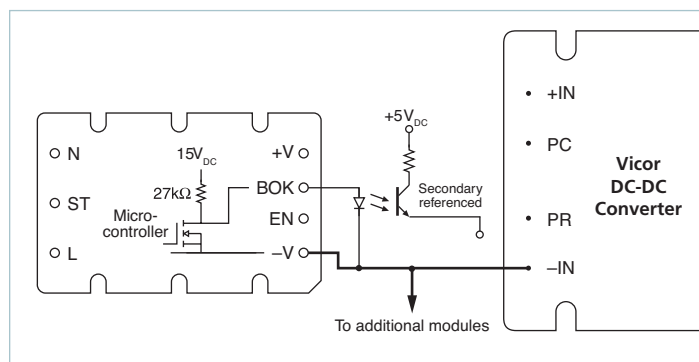

Figure 12 — Bus OK (B OK) isolated power status indicator
**Bus-OK (B OK) Pin:** (see Figure 12) The Bus-OK pin is intended to provide early-warning power fail information and is also referenced to the negative output pin.
The power fail warning time ( $\Delta t$ ) is defined as the interval between (B OK) and converter shut down (EN) as illustrated in Figure 12. The Bus-OK and Enable thresholds are 205V and 190V, respectively. A simplified relationship between power fail warning time, operating power, and bus capacitance is obtained by inserting these constants: